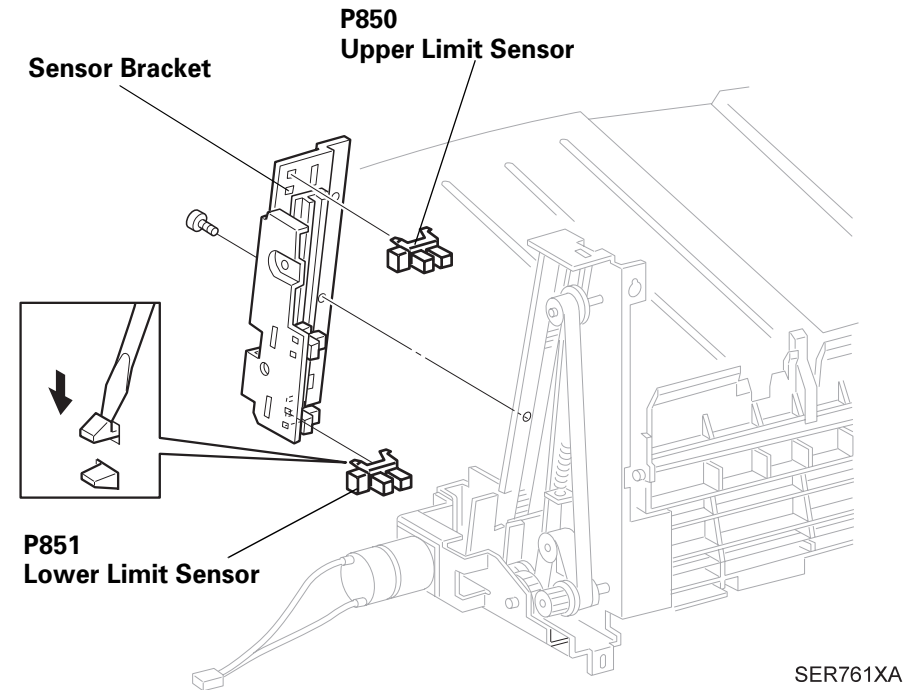

Figure 3-25. Bottom Tray Lower and Upper Limit Sensor
1. Place the Lower Limit Sensor as shown in the Figure 3-25 and insert it with latches ahead into the cutouts of the Sensor Bracket and set the latches on.